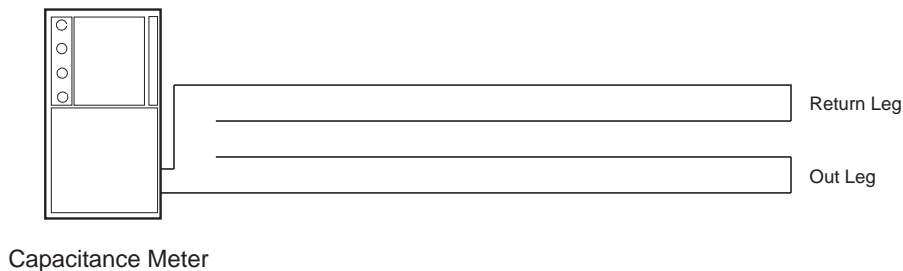

Figure 2-29. Measuring CLASS-A SLC Wiring Capacitance
1. Measure the capacitance using the wiring that will connect to control unit terminals J19-1 and J19-3 (Terminals J19-2 and J19-4 MUST remain disconnected from the control unit) as shown in Figure 2-29.